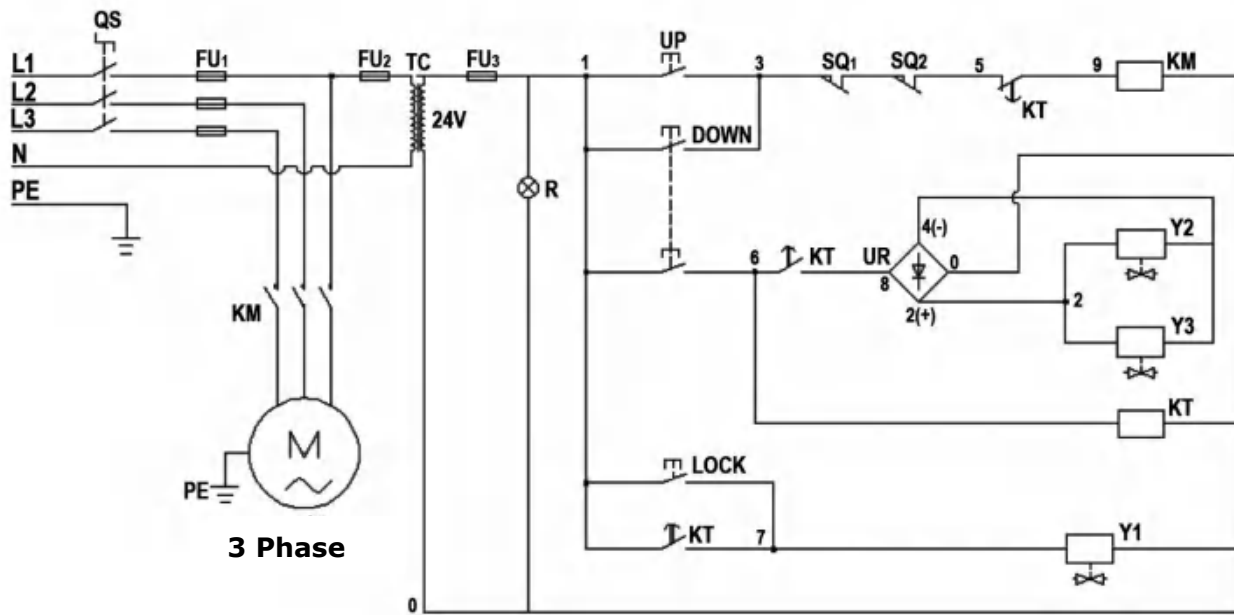

Fig.33
2.3 380V Circuit diagram (See Fig. 33)